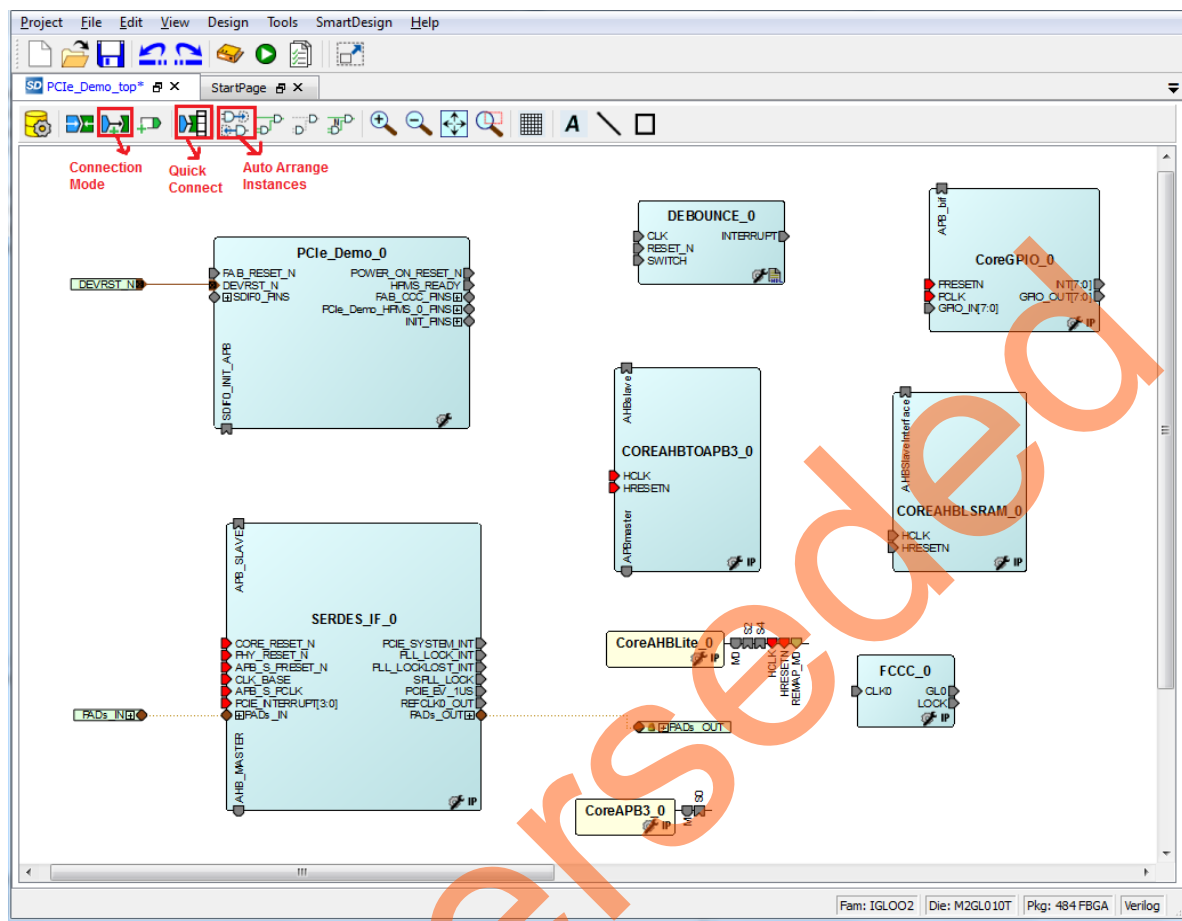

Figure 26 • PCIe_Demo_top in SmartDesign
4. Figure 26 shows PCIe_Demo_top in SmartDesign after configuring all components.
- The first method is by using the **Connection Mode** option. To use this method, change the SmartDesign to connection mode by clicking **Connection Mode** on the SmartDesign window, as shown in Figure 26. The cursor changes from the normal arrow shape to the connection mode icon shape. To make a connection in this mode, click on the first pin and drag-drop to the second pin that you want to connect.
- The third method is by using the **Quick Connect** option. To use this method, change the SmartDesign to quick connect mode by clicking on **Quick Connect** mode on the SmartDesign window, as shown in Figure 26. Quick connect window will be opened.